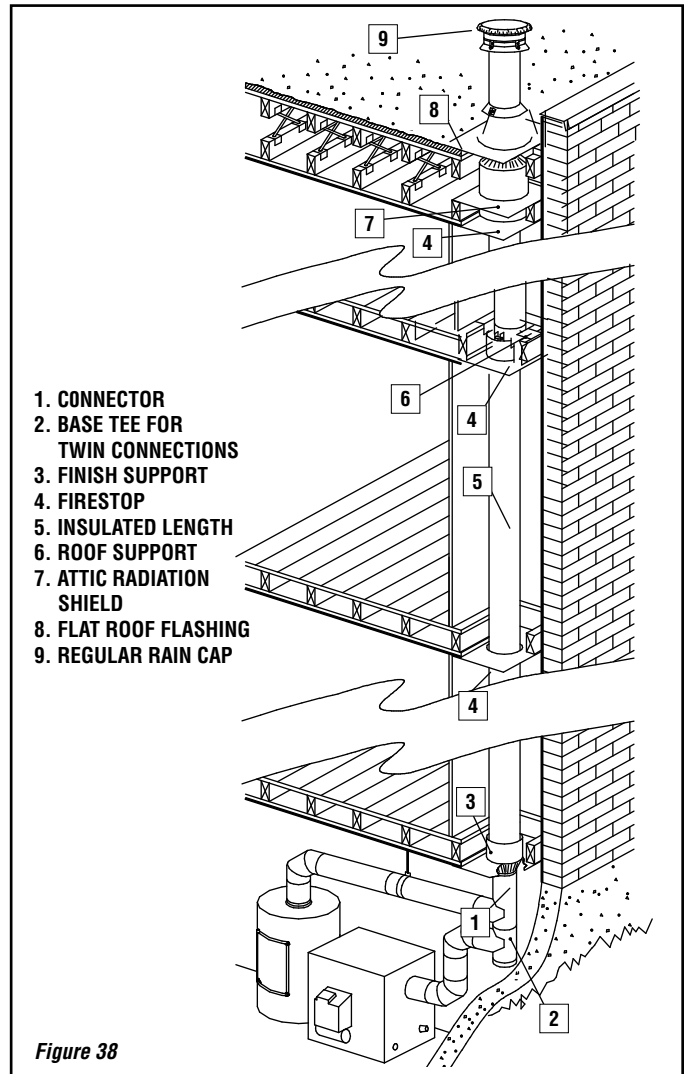

Figure 38
Step 4. From below, install a firestop (BF+) in each floor through which the chimney passes (see **Figure 38**).